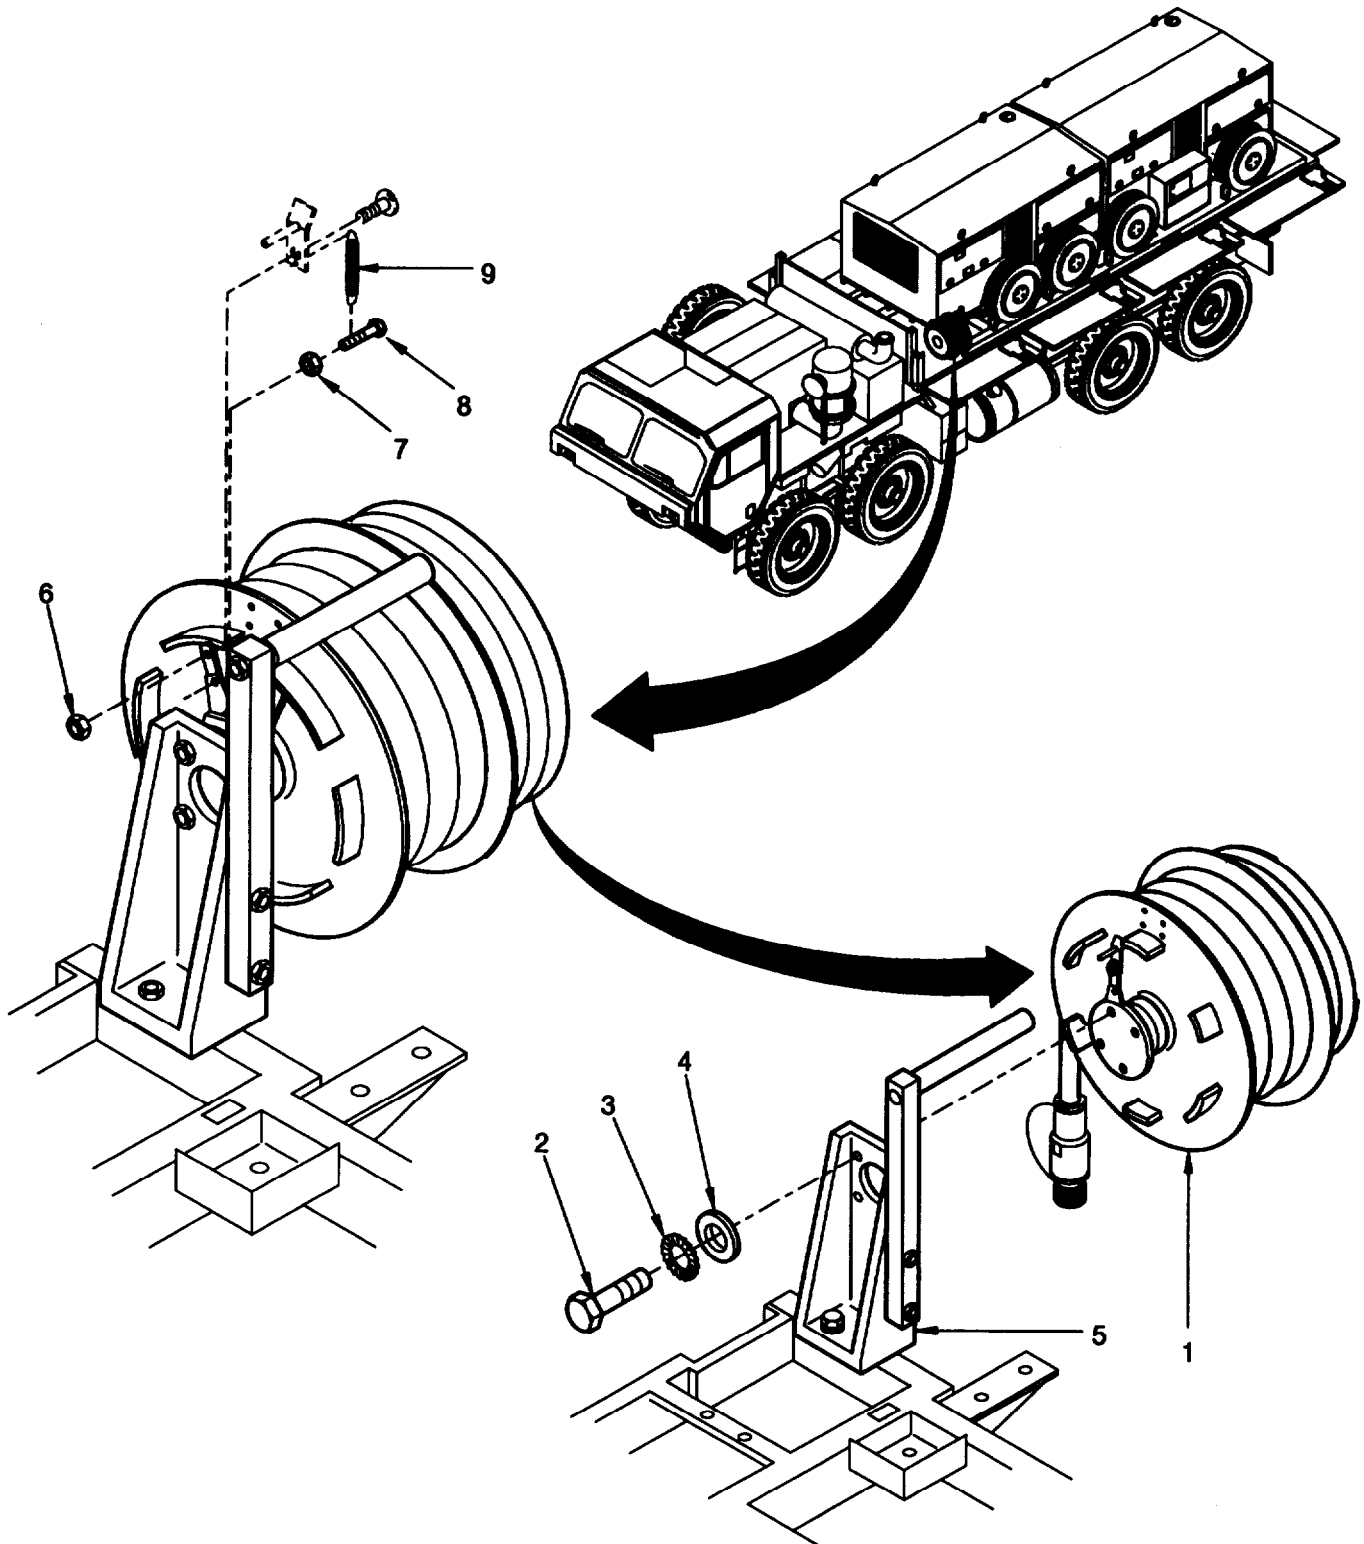

Figure 4-17 Control Cable Drum.
- a. Grasp cable drum (1, figure 4-17), release ratchet, and allow cable drum to run out slowly (27 revolutions) until it is completely detensioned.
- b. Remove four screws (2), serrated lock washers (31), washers (41), and remove cable drum (11 off bracket (6).